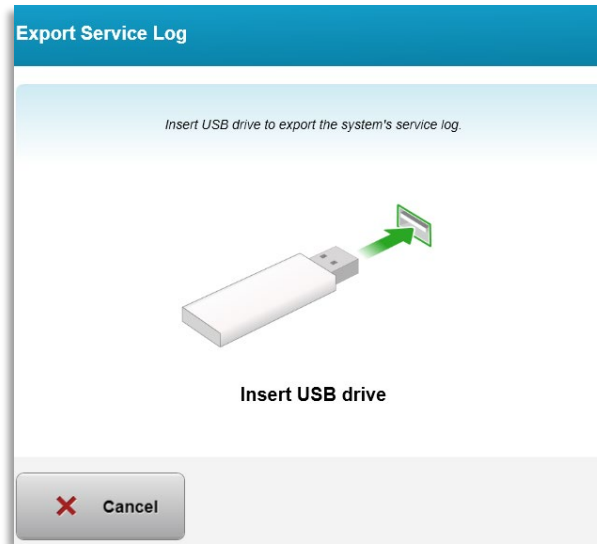

Figure 3-57. Export Service Log to USB
- Follow onscreen instructions to insert a USB drive to the USB port as shown in Figure 3-57.